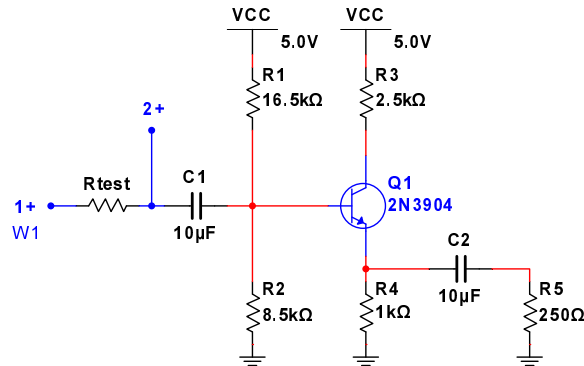

Figure 17: Amplifier setup for input resistance measurement
- Insert a test resistor (R_{test}) that is close to the calculated value of the input resistance R_i as in Fig. 17
- Connect $W1$, 1+ and 2+ as shown in Fig. 17, 1-, 2-, ↓ to ground